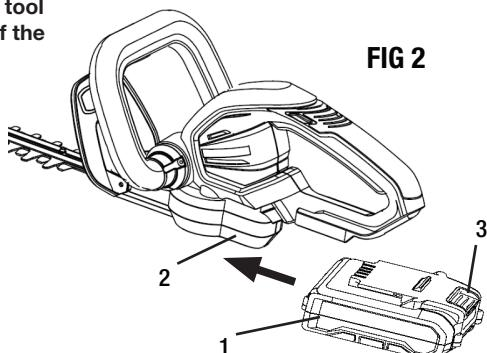

FIG 2
### INSTALLING OR REMOVING THE BATTERY PACK (FIG 2)
- To install the battery pack, slide the battery pack (1) into the bottom of the tool housing (2) all the way until it locks in place with a click, as shown in FIG 2. Lightly pull on the battery to ensure it is locked into place and will not accidentally fall out of the tool, causing an injury.
- To remove the battery pack, pull the battery pack away from the tool while depressing the battery locking tab (3).